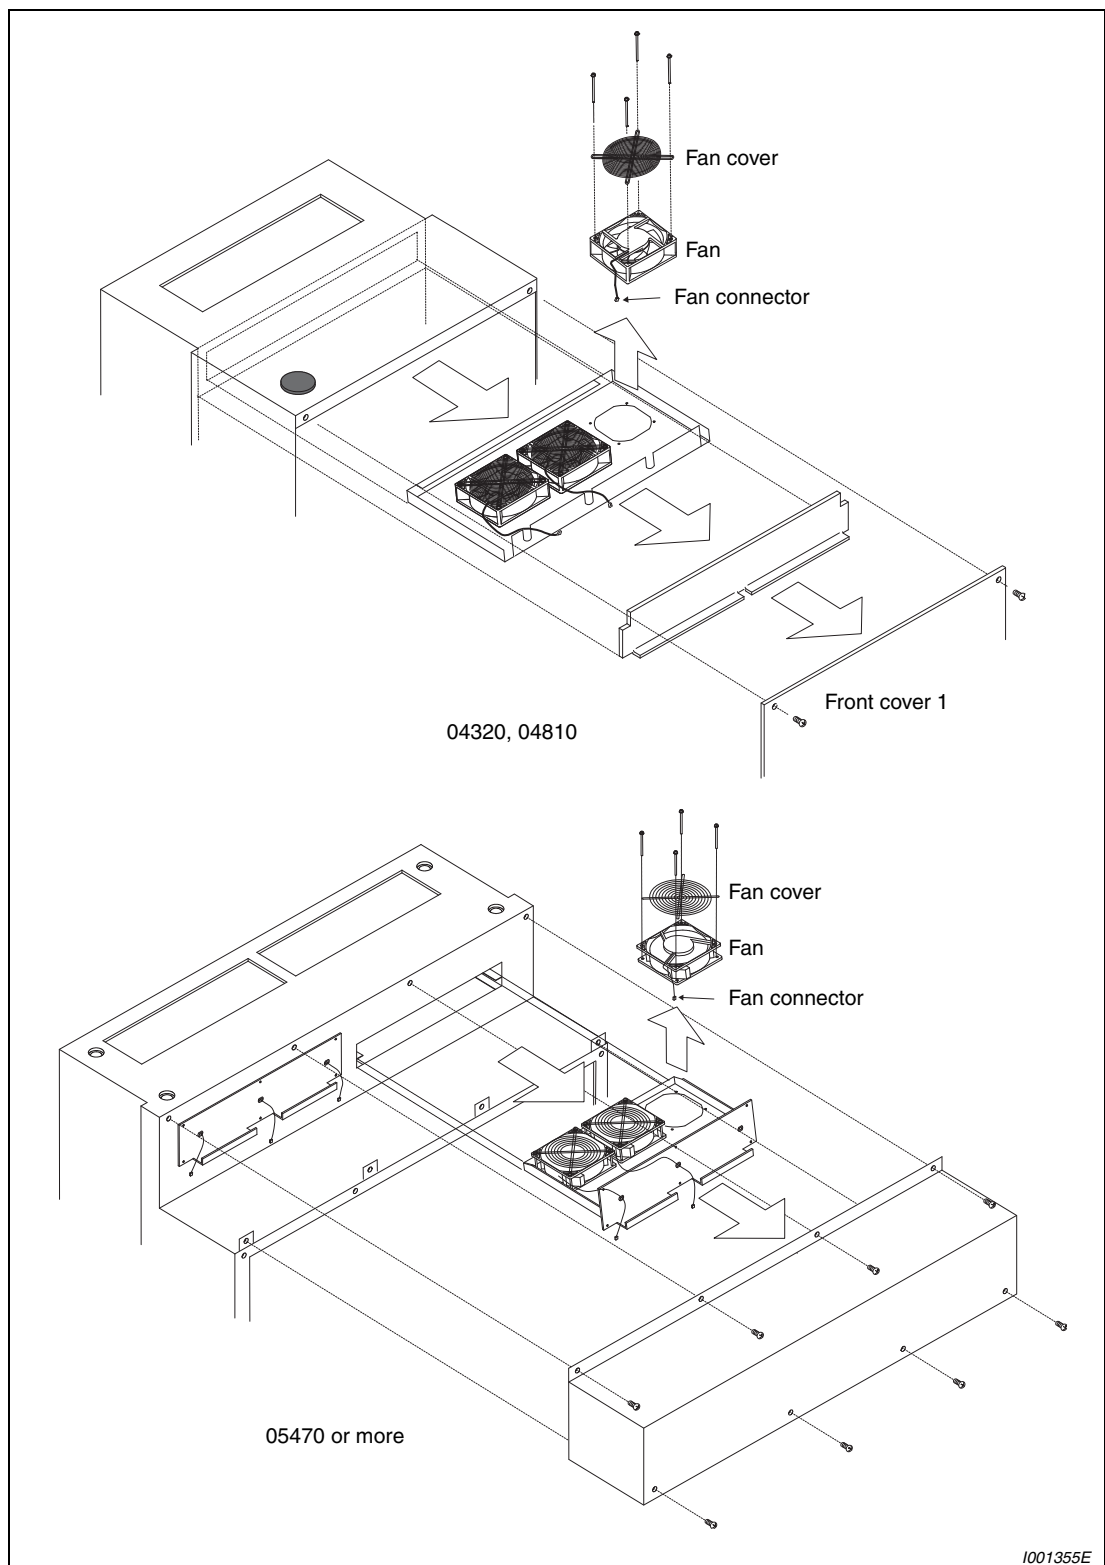

Fig. 8-9: Removal of the fan
- ② Install fans referring to Fig. 8-9.
- ① Remove the fixed screws to remove the fan cover.
- ② Remove the fan cover.
- ③ Remove the fan connector.
- ④ Remove the cooling fan.
- ① After confirming the orientation of the fan, reinstall the fan so that the arrow on the left of "AIR FLOW" faces up.